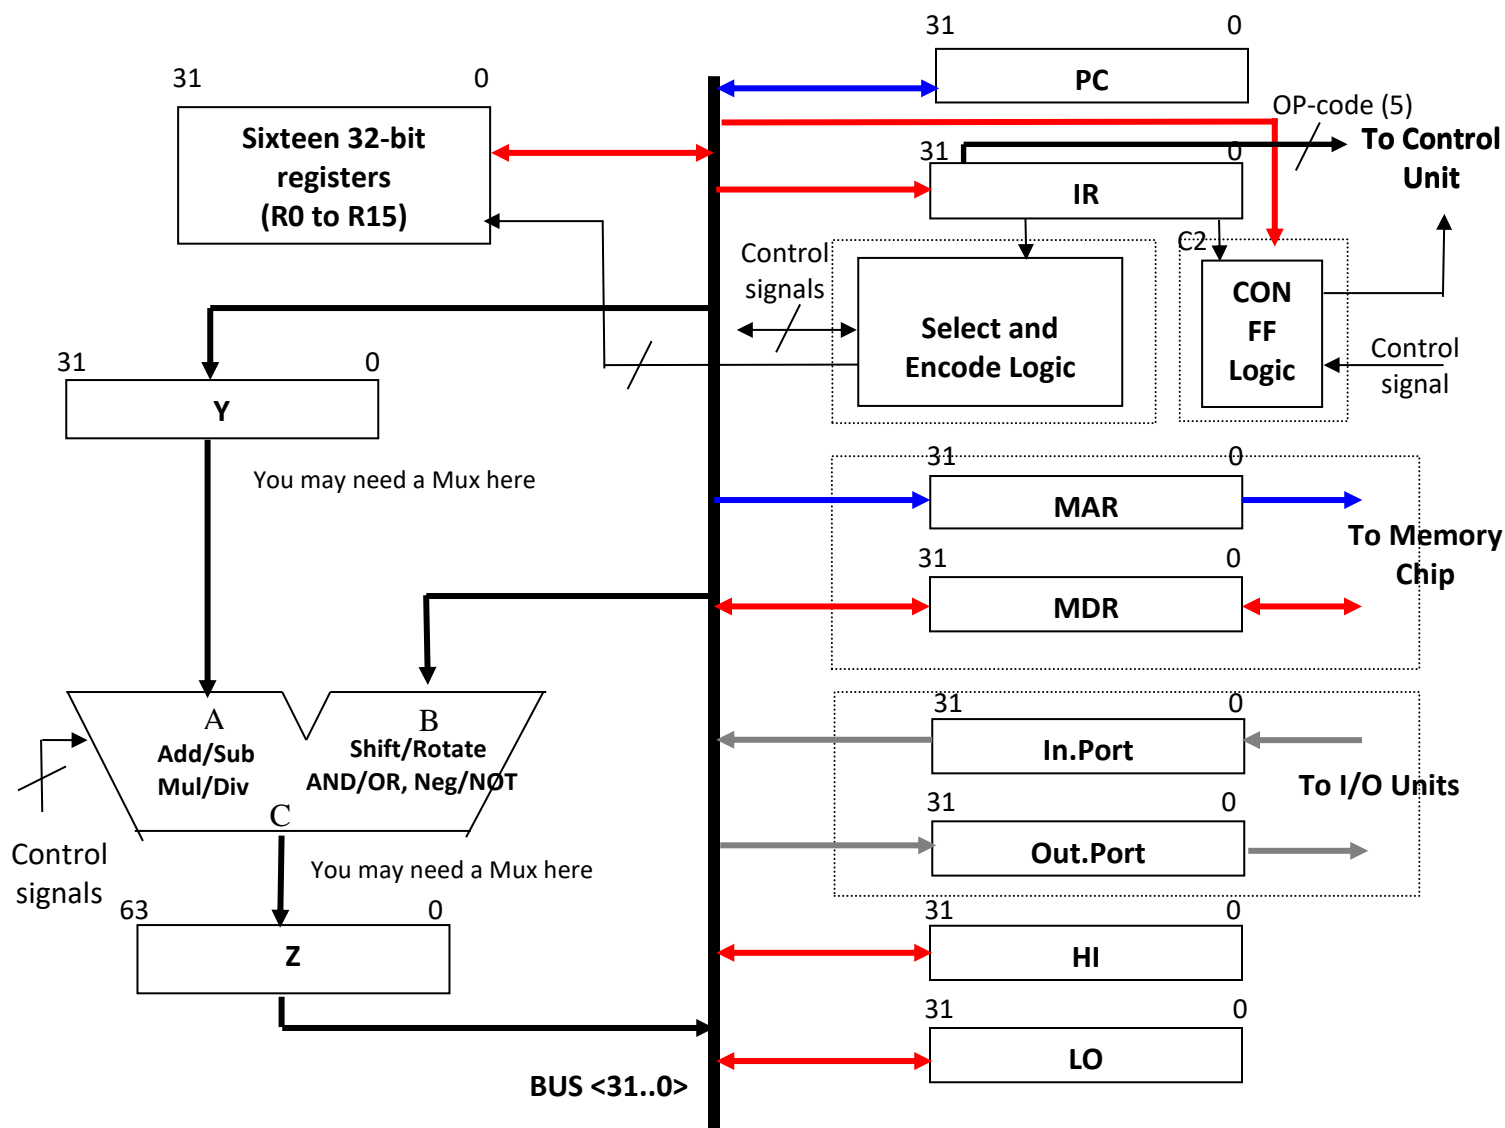

Figure 1: Simplified datapath
2.1 DataPath: Figure 1 illustrates a simplified single-bus Datapath for the Mini SRC (see Figure 4.2 on page 143 and Figure 4.3 on page 148 of the Lab Reader). As shown in Figure 1, the datapath consists of a 32-bit bus, BUS. The bus is responsible for transferring the information among different components of the system. There can be only one transaction at a time on a single bus. There are sixteen 32-bit registers *R0* through *R15* in the Mini SRC, as discussed in the CPU specification. There are also two dedicated 32-bit registers *HI* and *LO* for holding the result of a multiplication or a division operation. The 32-bit *Instruction Register*, *IR*, holds the current instruction. The 32-bit *Program Counter*, *PC*, points to the address of the next instruction after the execution of the current instruction. *PC* is incremented by 1 during the instruction fetch, using *IncPC* control signal in the *Arithmetic Logic Unit* (ALU). You may instead opt for a hardware incrementer outside ALU. In general, you are welcome to come up with your own ideas and design decisions during the entire CPU design project.
Design the datapath shown in Figure 1 (except for the “Select and Encode Logic”, “CON FF Logic”, “Memory chip in the Memory Subsystem”, and “Input/Output ports” units) using an all HDL (VHDL or Verilog) or a mixed schematic/HDL in Quartus II design software. You are advised to follow the steps below when designing your datapath:
1. Design the registers R0 to R15, PC, IR, Y, Z, MAR, HI, and LO (see Figures 1 and 2).